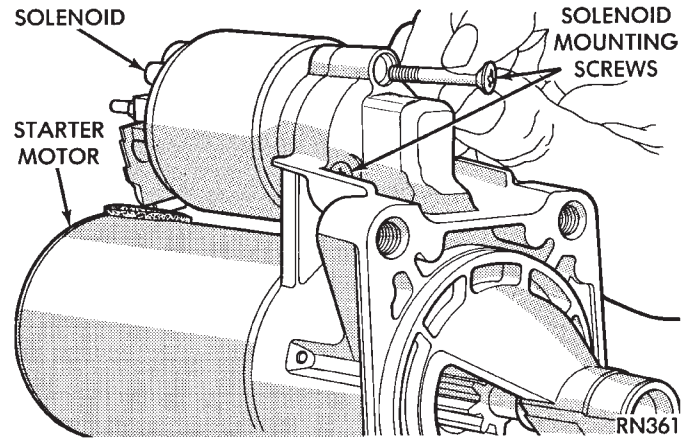

Fig. 17 Solenoid Mounting Screws
(4) Remove three solenoid mounting screws (Fig. 17).